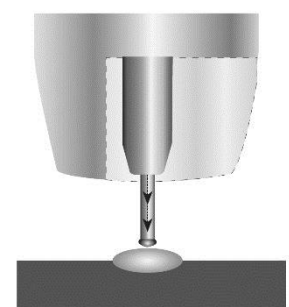

Fig. 33
- The wire feed speed overcomes the heat of the arc and the wire again approaches the work to short-circuit and repeat the cycle (Fig. 33).